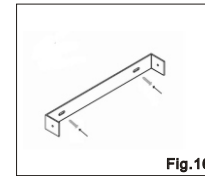

Fig.16
- Mark the desired position of the duct cover mounting bracket on the wall. Fix and secure duct cover mounting bracket with two screws (not included). (Fig.16 )